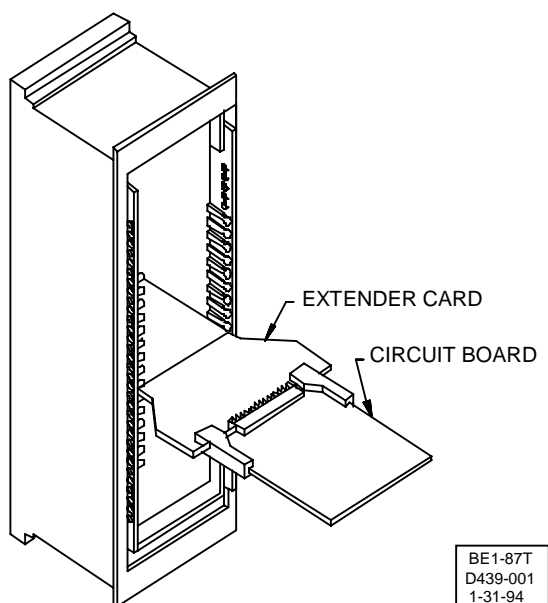

Figure 5-1. Illustrating Use of Extender Board
If actual waveforms, as sensed by the BE1-87T are desired, a procedure using a circuit board Extender Card shown in Figure 5-1 and an oscilloscope is available.
4. Extender Card, Basler p/n 9165500100, as shown in Figure 5-1.